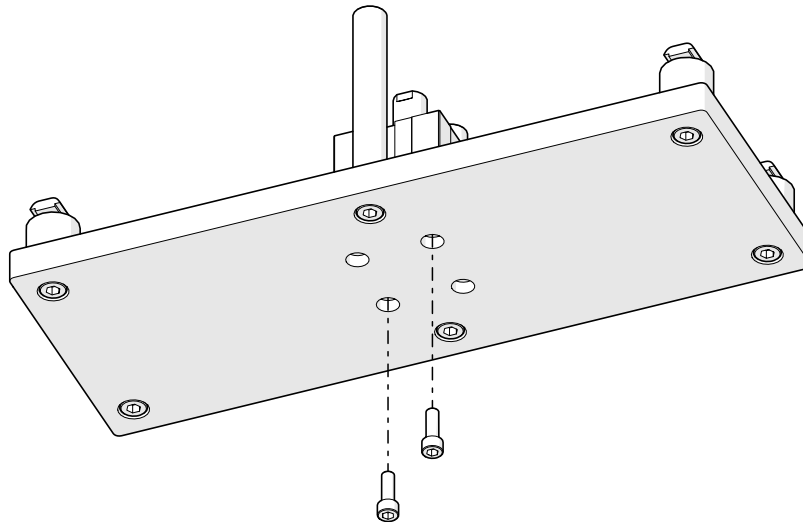

Figure 16: Reinstalling M6 SHCS
Step 3: Remove Bottom M6 SHCS (Figures 16 & 17)